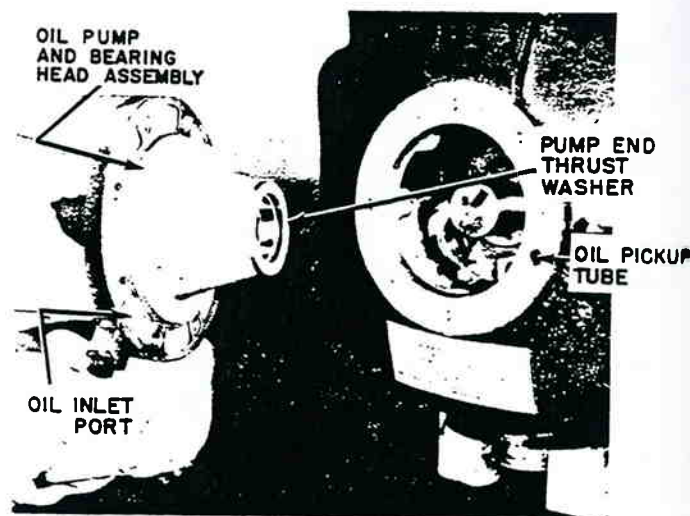

Figure 16-39: Installing Oil Pump
8. Install the pump and thrust washer on the two dowel pins located on the bearing head (figure 16-39).
9. Install the bearing head assembly on the compressor crankshaft with a new gasket. Carefully push oil pump on by hand ensuring that the thrust washer remains on the dowel pins. The tang on the end of the drive segment engages the slot in the crankshaft, and the oil inlet port on the pump is aligned with the oil pickup tube in the crankcase. The pump should mount flush with the crankcase and should be oriented as shown in figure 16-39.